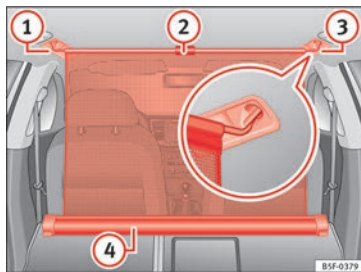

Fig. 170 In the luggage compartment: net partition hooked into the rear seat backrests.
- Pull up handle »» Fig. 170 ② to remove the net from the casing »» Fig. 170 ④.
- Hook in the net partition on the right side »» Fig. 170 ③ (magnified image).
- Hook in the net partition in the left side housing »» Fig. 170 ① pulling the rod.
The net partition is properly assembled when the T-shaped ends are firmly secured in the corresponding housings »» Fig. 170 ③ and ①.
- Roll up the net into the casing »» Fig. 170 ④ lowering it with your hand.